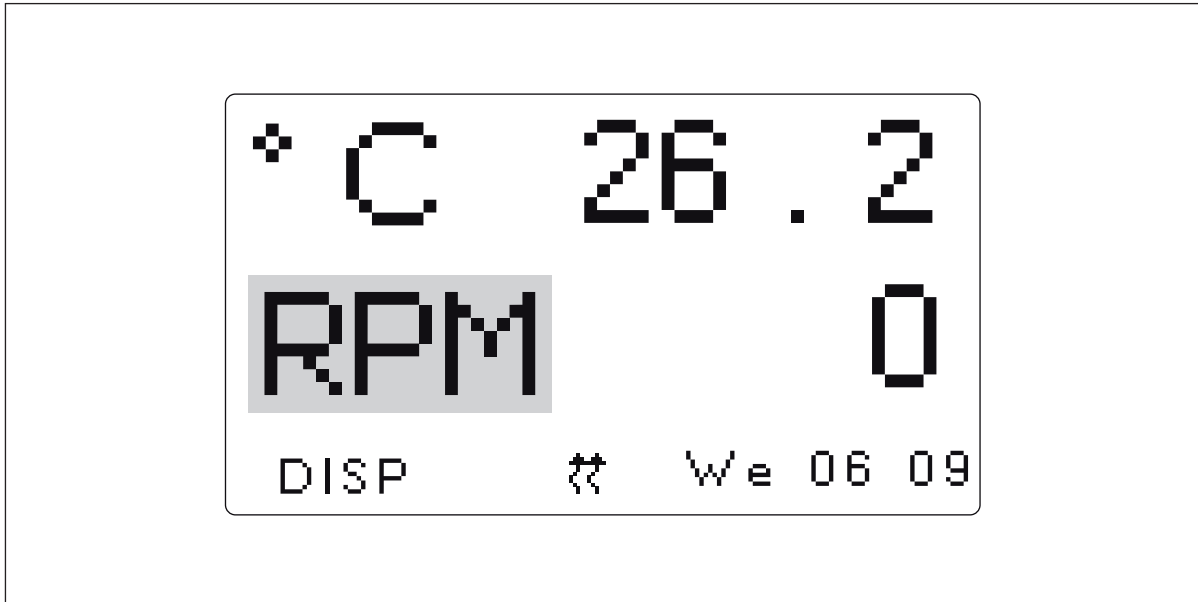

Fig. 5-2: Changing Display Parameter
1. Using the Control Knob, highlight the parameter that you wish to replace. For this example, we will replace **RPM** (see Fig. 5-2 on p. 42).